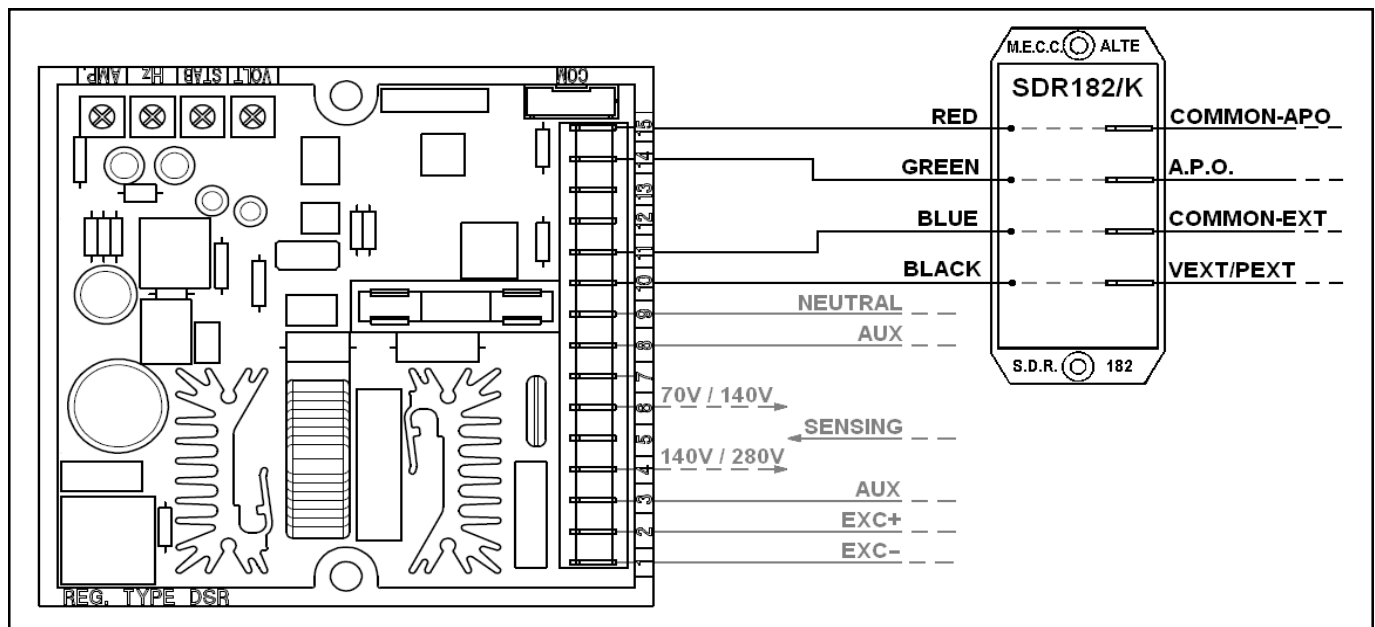

Fig. 4: EMI SDR182/K filter connection
NOTE (2) With external EMI filter SDR 128/K, see Fig.4 (3m without EMI filter)